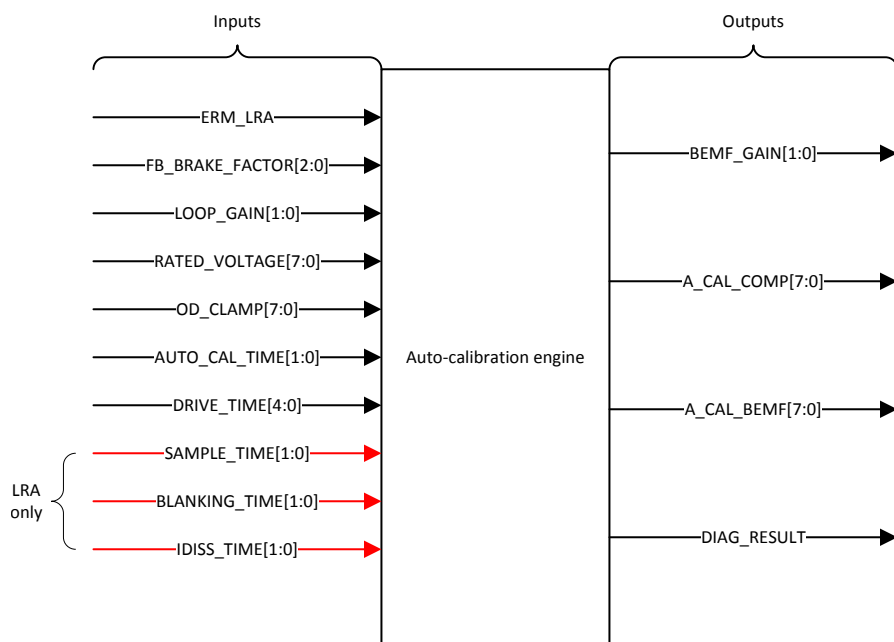

Figure 22. Calibration-Engine Functional Diagram
The calibration engine requires a number of bits as inputs before it can be executed (see Figure 22). When the inputs are configured, the calibration routine can be executed. After calibration execution occurs, the output parameters are written over the specified register locations. Figure 22 shows all of the required inputs and generated outputs. To ensure proper auto-resonance operation, the LRA actuator type requires more input parameters than the ERM. The LRA parameters are ignored when the device is in ERM mode.
4. Set the GO bit (write 0x01 to register 0x0C) to start the auto-calibration process. When auto calibration is complete, the GO bit automatically clears. The auto-calibration results are written in the respective registers as shown in Figure 22.